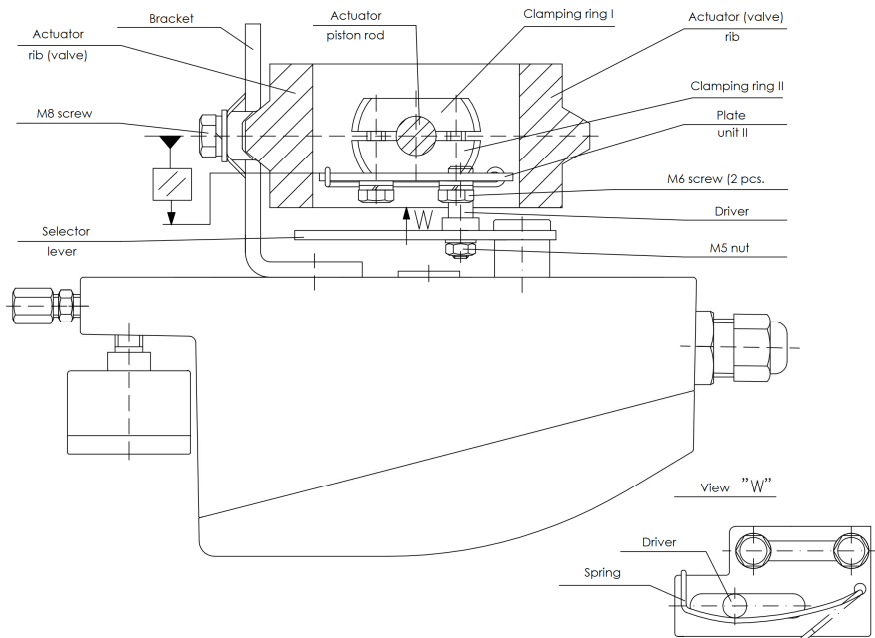

Fig. 12. APIS-100...type positioner with mounting set APIS-A003
- Install driver on selector lever of the positioner in place corresponding to actuator's stroke and tighten up a M5 nut (see Fig. 12)
- Connect driver with actuator piston rod by inserting of the driver into proper cut-out in plate unit II – see view at fig. 12, so as to in the middle ( 50 % ) of stroke the selector level will take horizontal position ( in case of need – correct positioner position by moving in on the actuator's rib. Levelling proper hole in bracket (mounting positioner) with threaded hole of actuator's rib).